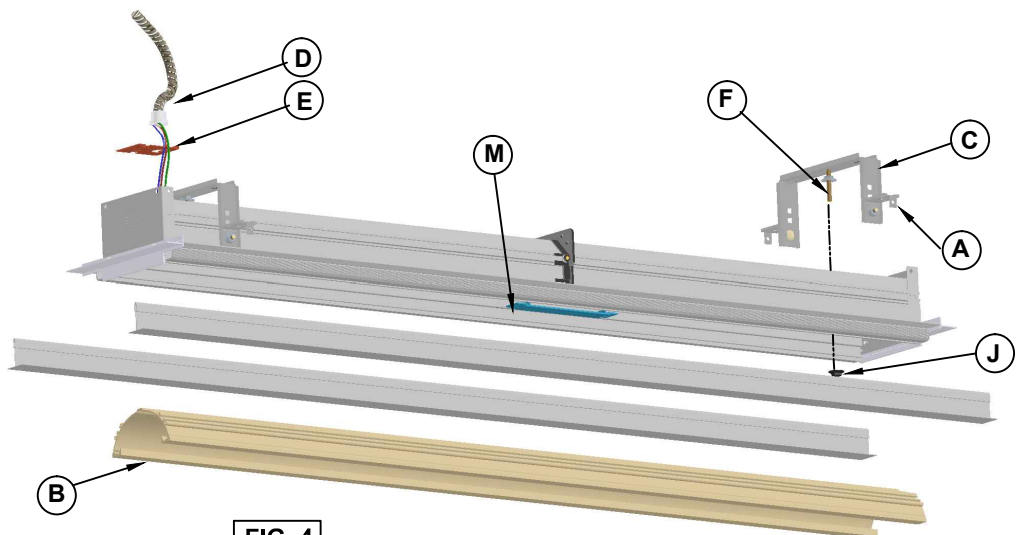

FIG. 4
REMOVE REFLECTOR ASSEMBLY (B) FROM FIXTURE (REF. INSTRUCTIONS ON PAGE 4). REMOVE LOWER NUT (J) FROM YOKE ASSEMBLY (C) AND ADJUST UPPER JAM NUT (L) TO THE UPPERMOST POSITION. ATTACH TWO YOKE ASSEMBLIES (C) TO HOUSING THROUGH MOUNTING HOLES PROVIDED WITH PREVIOUSLY REMOVED NUT.(REF. FIG. 4)
REMOVE ACCESS PLATE (E) AND PULL FIXTURE LEADS OUT THROUGH OPENING. REMOVE KNOCK-OUT FROM ACCESS PLATE AND INSTALL FLEXIBLE CONDUIT FEED (D) TO ACCESS PLATE. ATTACH GROUND WIRE TO STUD ON INSIDE OF ACCESS PLATE AND MAKE OTHER WIRE CONNECTIONS MAINTAINING COLOR CODING OF WIRES. PUSH EXCESS WIRE INTO FIXTURE HOUSING AND SECURE ACCESS PLATE TO HOUSING INSURING THAT WIRES ARE NOT PINCHED BETWEEN FIXTURE AND ACCESS PLATE. (REF. FIG.4)